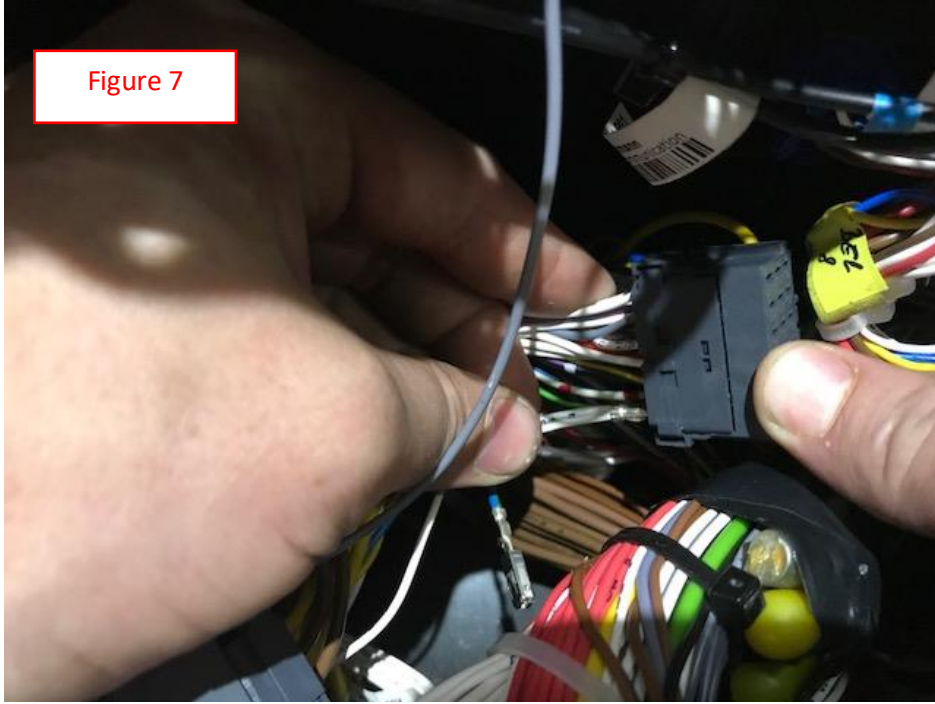

Figure 8
- Step 15. Install circuit ABH 55 c in connector X4.A22 Pin 16 located in PSM. (Figure 8)